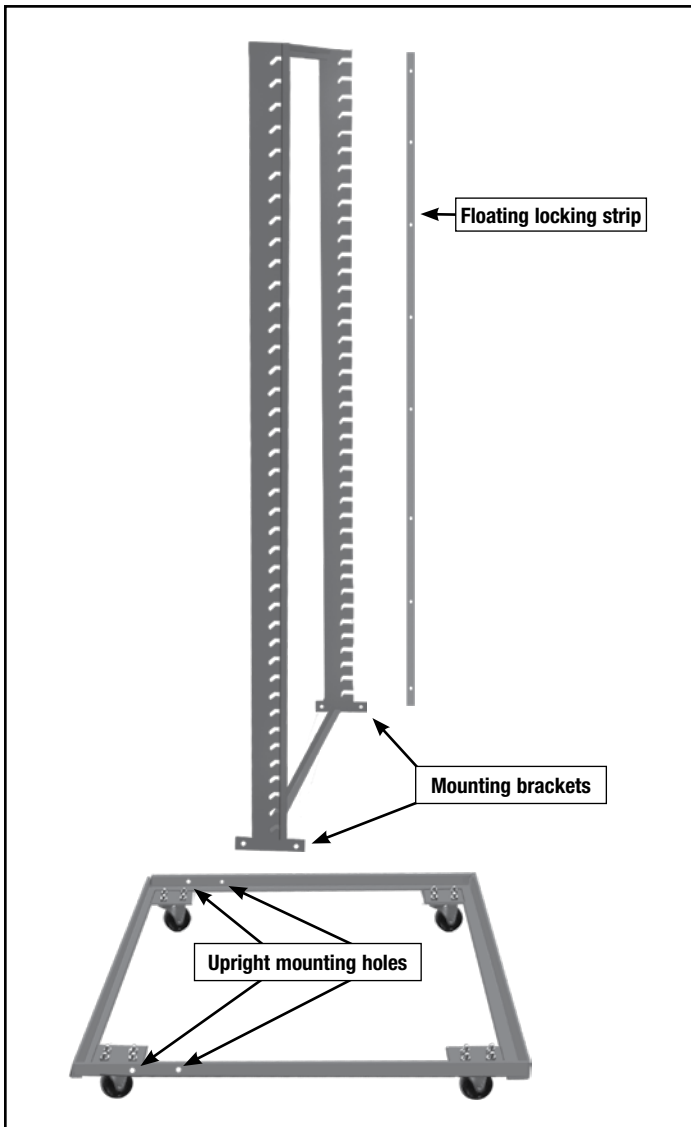
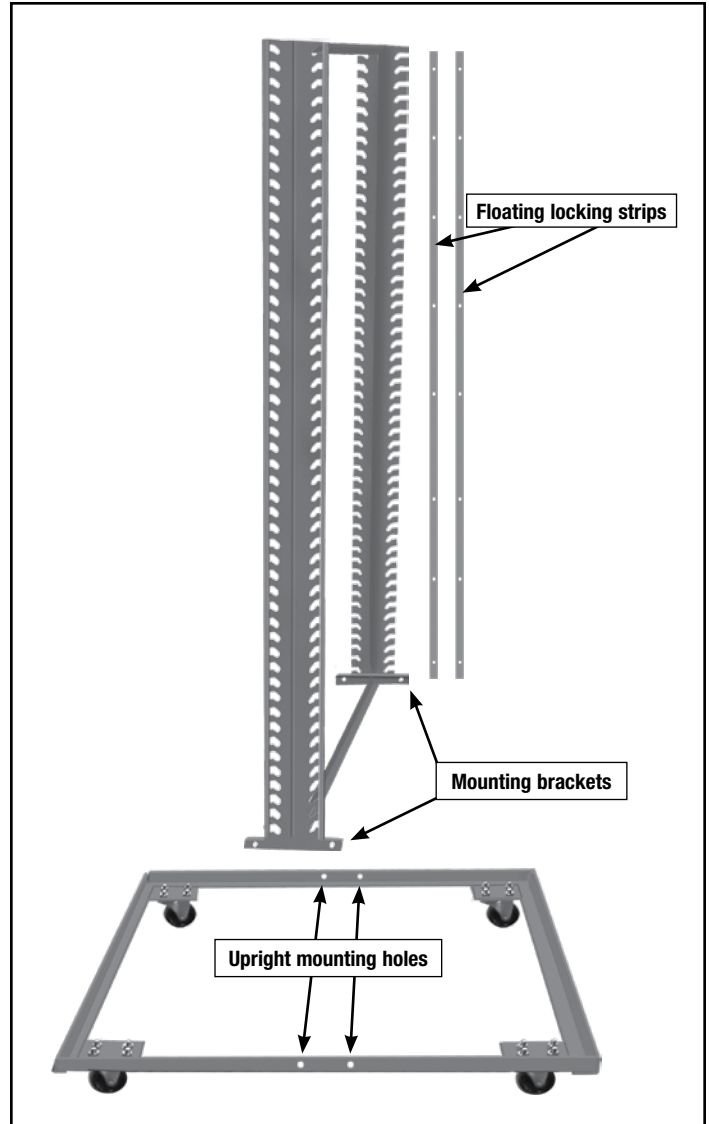

Figure 3. Attach upright to base; side of upright with welded lock strip is in foreground (Models DR-24-40A, DR-24-50, DR-26-40 and DR-26-50)
Figure 4. Attach upright to base; side of upright with welded lock strips is in foreground (Models DR-24-80 and DR-24-100)
Turn the base back right side up (with the casters on the bottom). Align the holes in the mounting brackets of the frame with the upright mounting holes on the base (Figures 3 & 4) and attach using four machine screws, four lock washers and four nuts. Screw heads should be to the outside and the lock washers and nuts to the inside. The upright mounts at the rear of the frame for models DR-24-40A, DR-24-50, DR-26-40 and DR-26-50 (Figure 3) and at the center of the frame for models DR-24-80 and DR-24-100 (Figure 4).
3. After all shelves are in place, attach the floating locking strip (Figures 3 & 4, page 4) to the open side of the upright with the self-tapping screws. This will prevent the shelves from falling out.